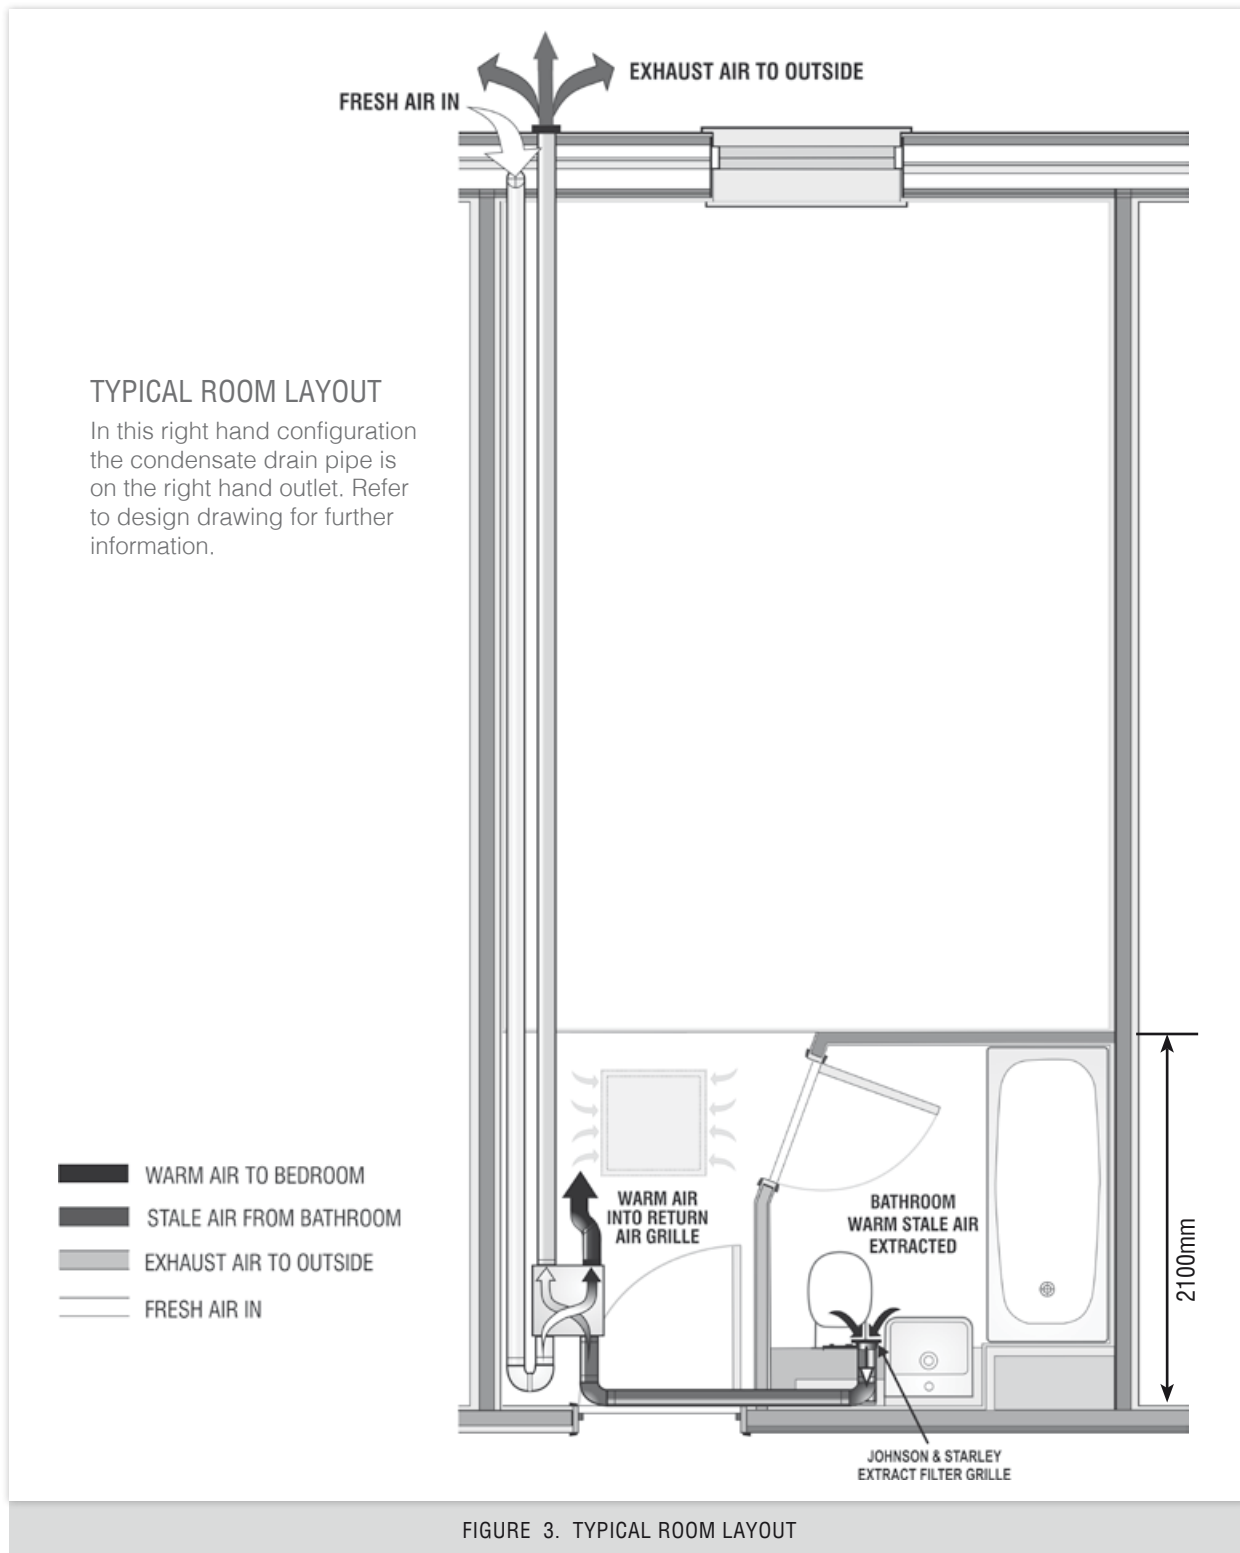

FIGURE 3. TYPICAL ROOM LAYOUT
13.1.3 For bathroom extract this unit is factory set for 8 l/s in trickle mode and 24 l/s in boost mode, based on the system configuration in Figure 3.